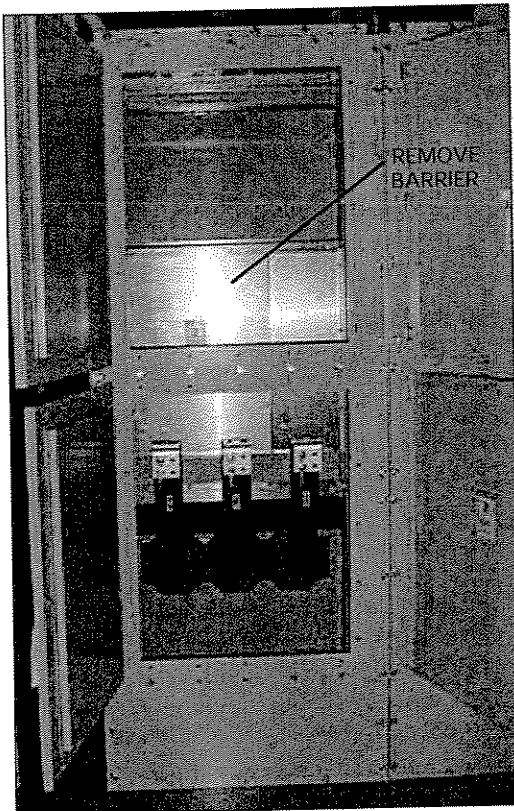

Figure 5. Main Bus Installation with Bus Barriers Installed, Viewed from Rear with Doors Open (Typical 1-High construction shown).
- A. Remove the horizontal metal barriers from the cable compartment in the rear of the switchgear. Remove the bus barriers (same as removed in earlier steps). Also remove any other components such as potheads, surge suppressers, etc., that interfere with access to the bus compartment. Note that the rear assembly of switchgear may vary. Figures 5 and 6 show the removal of necessary barriers (typical for 1-Hi design).